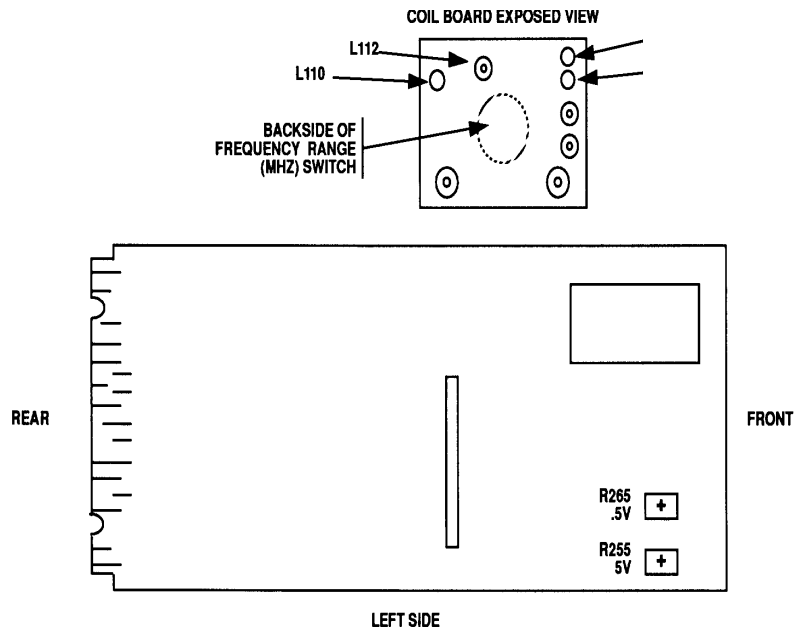

Figure 1. Main circuit board left side - adjustment locations.
- (1) Adjust R255 5V (fig. 1) for a 1.767 V ac indication on audio analyzer (R).
- (2) Adjust R265 .5V (fig. 1) for a 176.8 mV ac indication on audio analyzer (R).